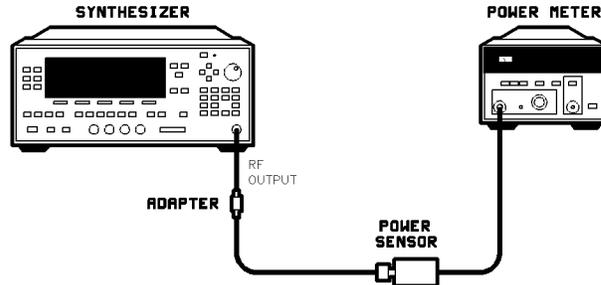

Figure 2-5. Power Accuracy Test Setup
1. Turn on the equipment shown in Figure 2-5 and let them warm up for at least one hour. Press **PRESET** on the synthesizer.
3. Connect the equipment as shown in Figure 2-5.